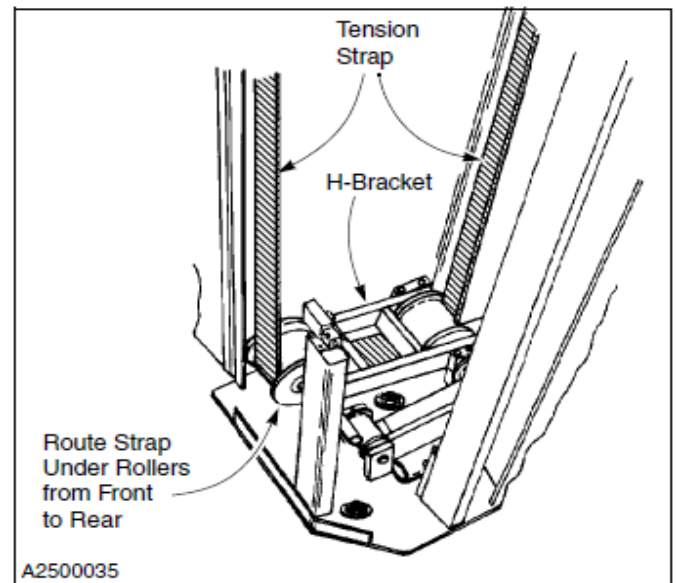
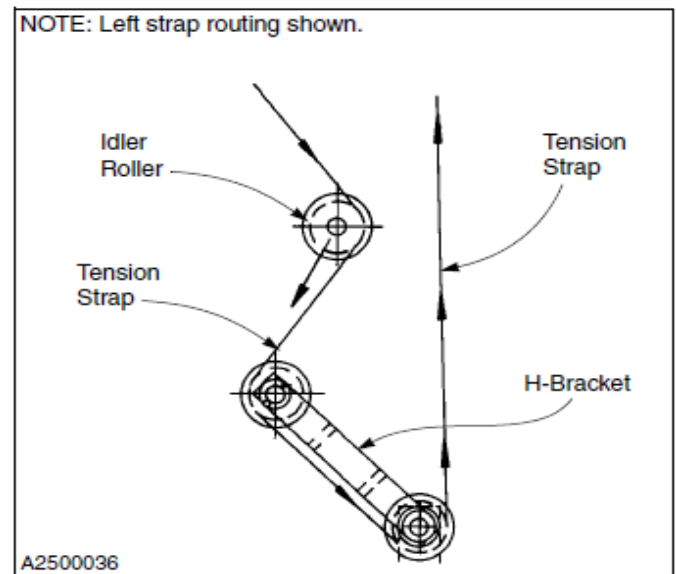
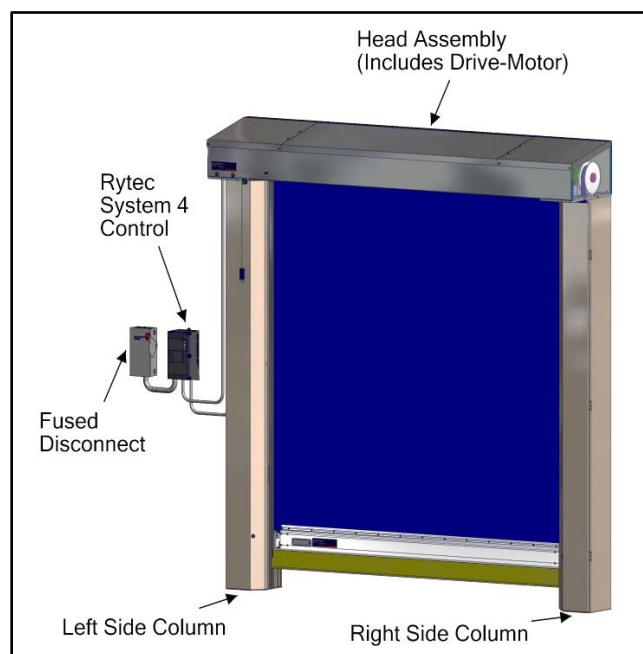

Figure 74
Figure 75
Figure 82
6. Route the tension strap as shown in Figure 74. If the door is equipped with an idler roller, route the strap around the idler as shown in Figure 75 and Figure 82.
3. To ensure the correct parts are shipped, please include the serial number of your door with the order. The serial number can be located by referring to the "DOOR SERIAL NUMBER(S)" Section on Page 1 for locations. (See Figure 82.)